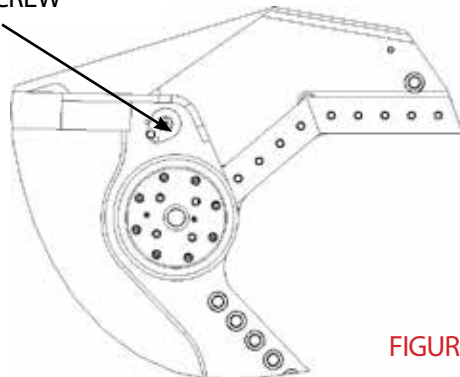
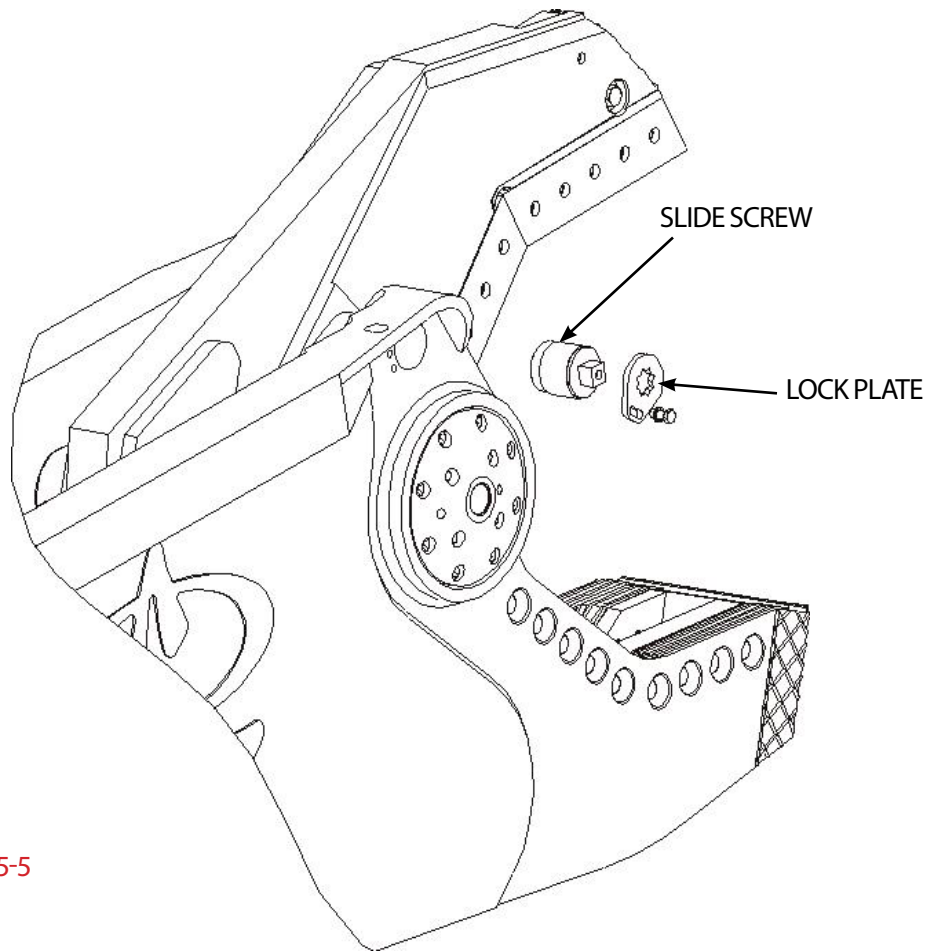

FIGURE 5-3
FIGURE 5-5
1. See Figure 5-3. To check and/or replace the slide screw, remove the bolts and lock plate (see Figure 5-5, page 5-13). Use a crescent wrench on the square end of the slide screw and turn it clockwise to adjust, counterclockwise to remove.